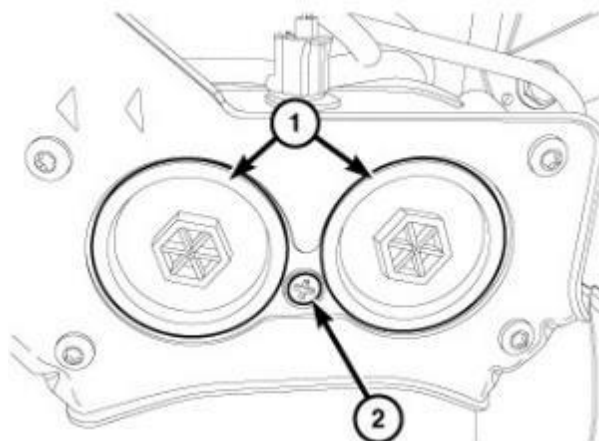

Figure 38 – Drain Plug
91. Loosen the drain plug (2) and drain the diesel fuel into a suitable container (Figure 38).
92. Securely tighten the drain plug (2) (Figure 38).